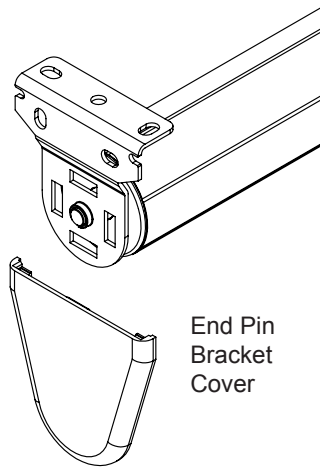
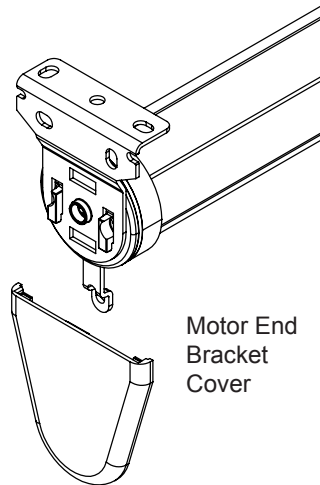

**Figure 10A.** End Pin Bracket
**Figure 10B.** Motor End Bracket
**Step 8.** To install, insert the pin on the end plug into the center hole of the wall bracket shown in **Figure 10A**. While putting pressure on the spring pin, install the motor end onto the other bracket. The spring pressure will allow the tabs on the motor end to seat into the bracket as shown in **Figure 10B**.